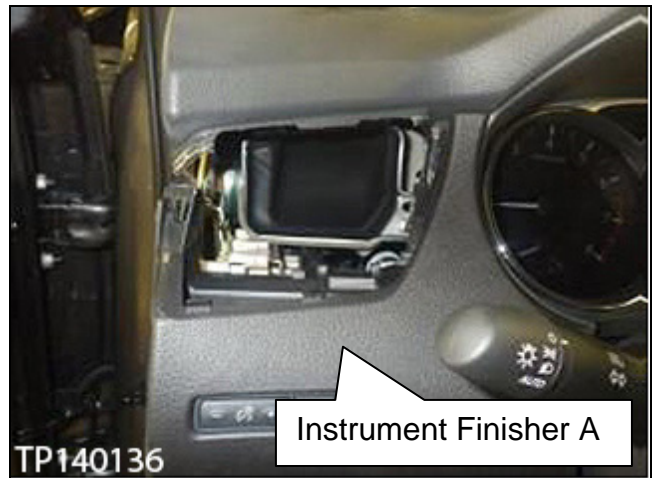
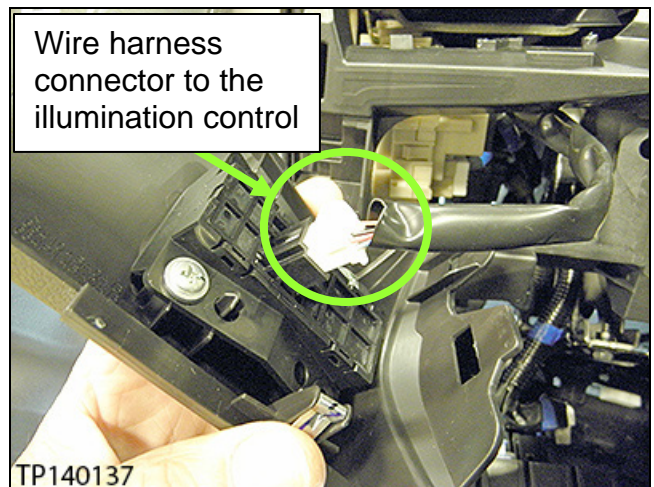

Figure 10
Figure 11
8. Remove the Instrument Finisher A (Figure 10), from the Instrument Panel by pulling rearward and then disconnect the wire harness connector (Figure 11) from the illumination control.
**NOTE:** There are three (3) metal clips and two (2) molded plastic clips that hold it to the Instrument Panel.